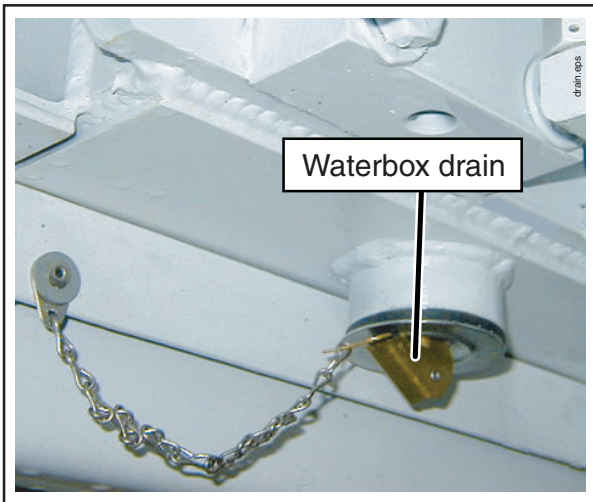

Figure 25
- With the engine stopped, remove the waterbox cover. Find the drain plug on the bottom of the waterbox (Figure 25). Remove the plug by unscrewing the T-handle until the plug becomes loose. When the plug is out, the water will drain out of the hole. Spray water into the waterbox, the material cylinders, and around the tension rings where the hydraulic cylinder rods come out of the waterbox wall. Do not allow cement particles or fine sand to build up. If you notice a layer of sand or cement particles at the bottom, the rubber rams need to be replaced. (For ram replacement